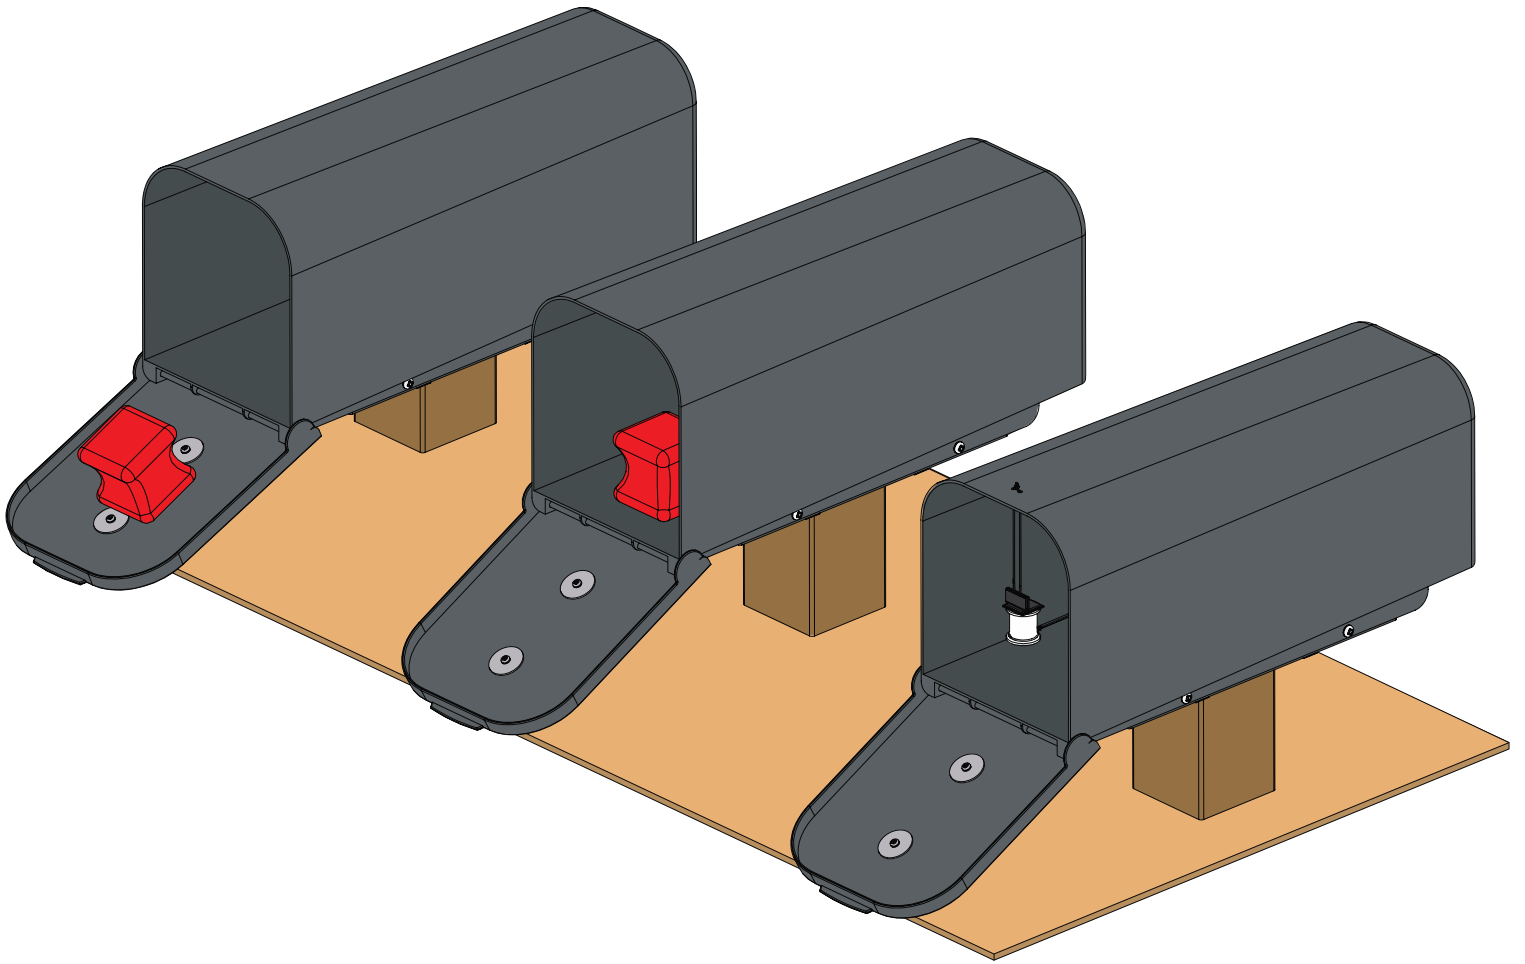

Figure 2
- First mailbox will be mounted such that the interior bottom of the mailbox will be at least 4" but not more than 5" from the ground. The ordnance will be fixed to the inside door of the mailbox with hook-and-loop fastener. The hook-and-loop fastener should not exceed 1" x 1" surface area. (Recommendation is 1" hook-and-loop tape cut to 1" lengths.) (See Figure 2.)
- Second mailbox will be mounted such that the interior bottom of the mailbox will be at least 6" but not more than 7" from the ground. The ordnance will be placed inside the mailbox at least 1" but not more than 2" from the opening of the mailbox. The ordnance should not be fastened or affixed to the mailbox in any way that would inhibit removal. (See Figure 2.)